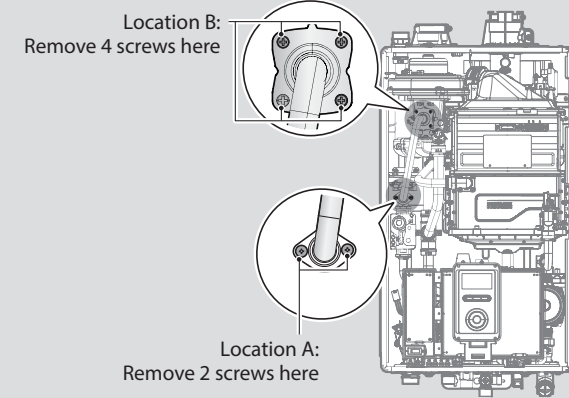

Figure 3. Detaching Gas Valve from Gas Inlet Pipe and Fan Motor Assembly
5. Use a Phillips screwdriver to remove the two screws at location A - the connection below the gas valve where it connects to the pipe. See Figure 3 for reference. Once the screws are removed, carefully separate the pipe from the gas valve.